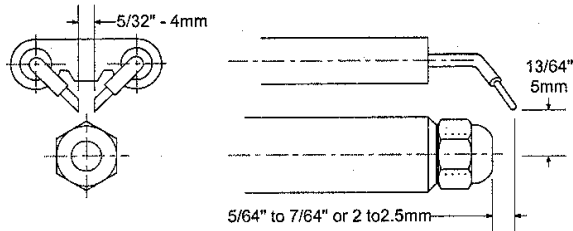

Figure 6: Electrode Setting
- i. Remove the NOZZLE ADAPTER (2) from the DRAWER ASSEMBLY by loosening the SCREW (1).*
- iv. Replace adapter, with nozzle installed, into drawer assembly and secure with screw (1).
- c. **Inspect and measure burner electrodes.** Refer to Figure 6 for the proper electrode settings.